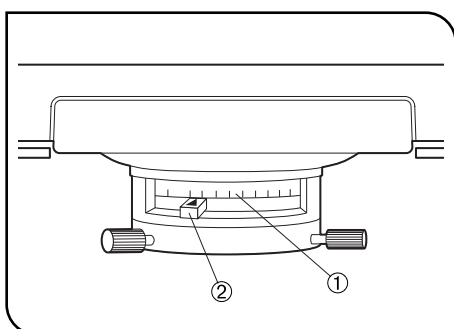

Fig. 23
2 Aperture Iris Diaphragm (Fig. 23)
When using a 100X objective, turn the aperture iris diaphragm knob ② all the way to 0.9 on the scale. (Fig. 23)